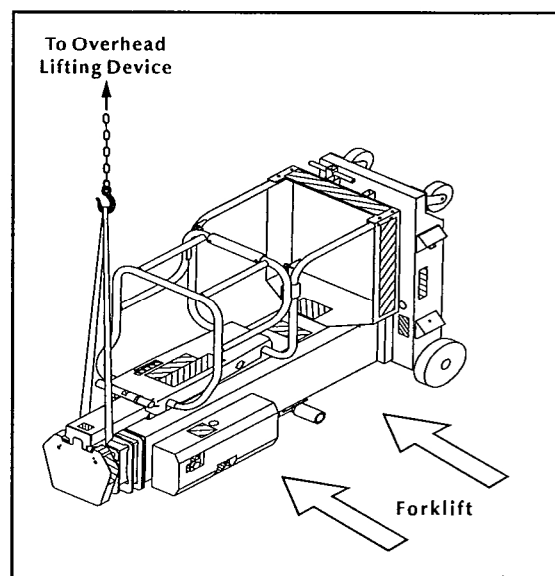

Figure 1
Using a suitable lifting device, lower the work platform into a horizontal position (Figure 1). If possible, place the machine onto a sturdy work table using a forklift. Before beginning step 1, insure that the mast is completely retracted. If necessary, open the emergency lowering valve and push on the top of the mast to fully retract it.
17. Using a suitable lifting device, raise the lift to its normal vertical position. (See figure 1.)
21. Using a suitable lifting device, lower the machine back to horizontal position. (See figure 1.)
23. Using a suitable lifting device, return the machine to its normal vertical position. (See figure 1.)